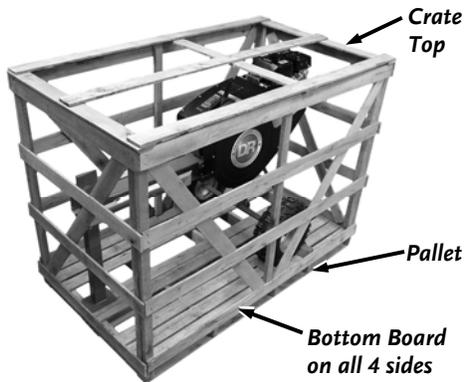

Figure 2
2. Pry the bottom Crate Boards away from the Pallet using a Pry Bar and Hammer (*Figure 2*).